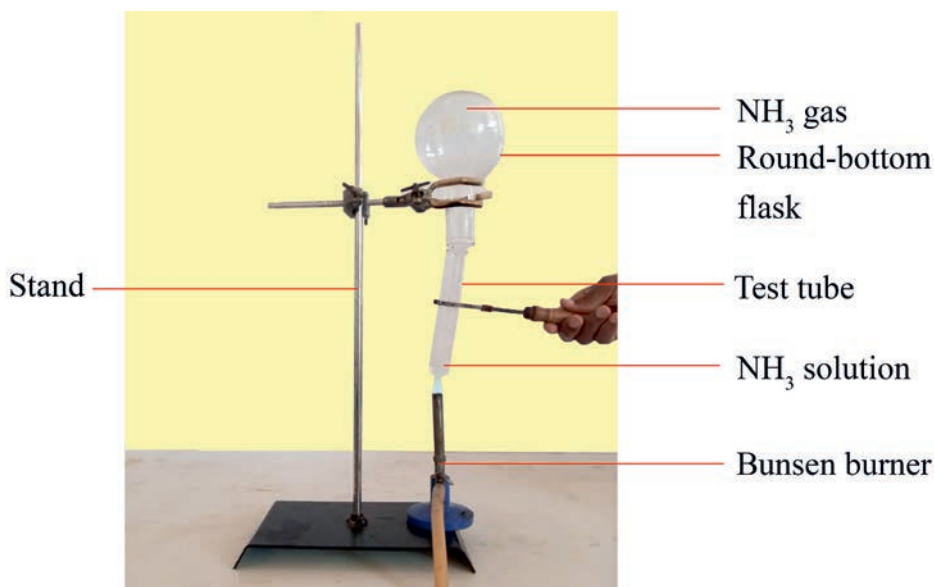

Figure 3.6a: Generation of ammonia
- Set up the flasks as shown in **Figures 3.6a** and **3.6b**